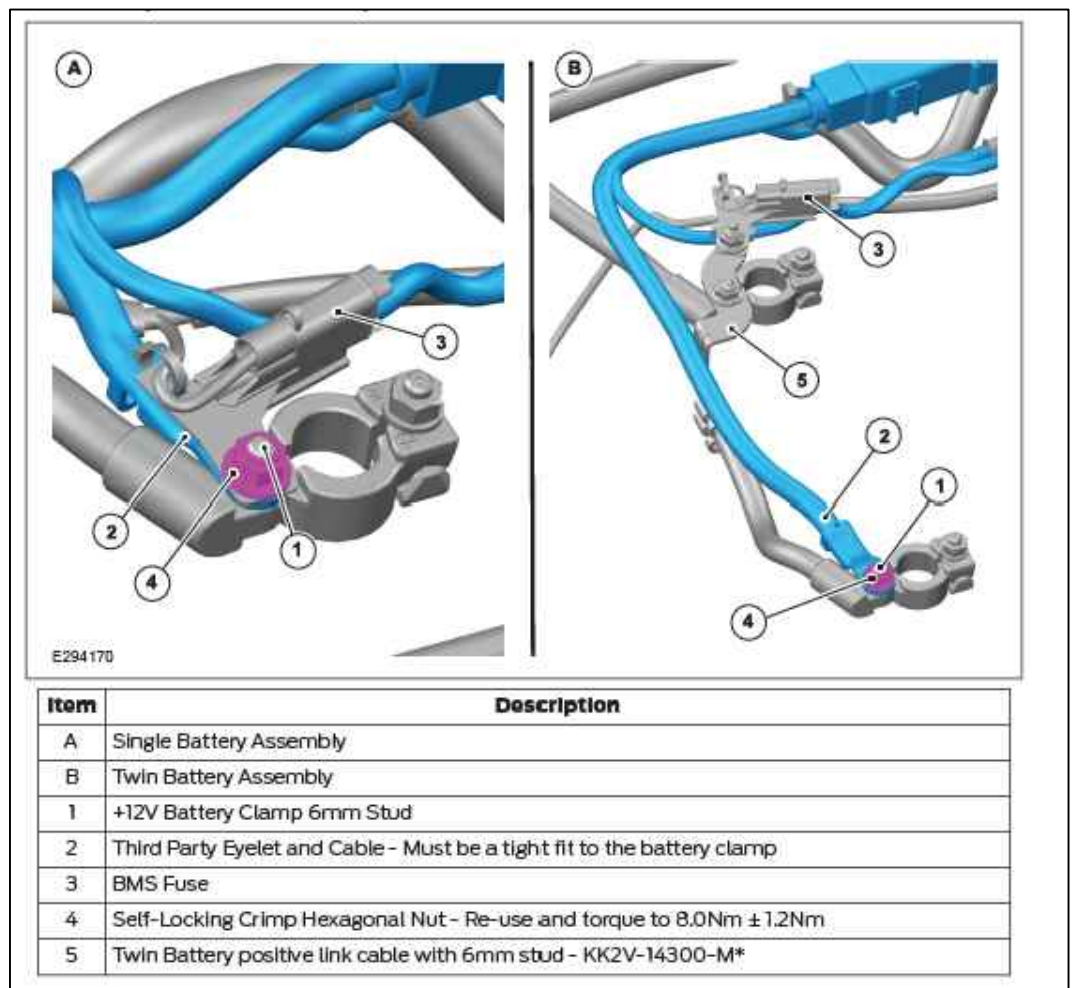

Figure 14: Battery diagram from 2020 Ford Transit Body and Equipment Mounting Manual (BEMM).
15. **Connect** the positive(+) lead to the M6 stud on the positive battery clamp. Reuse the M6 lock nut, when possible (Figure 14).